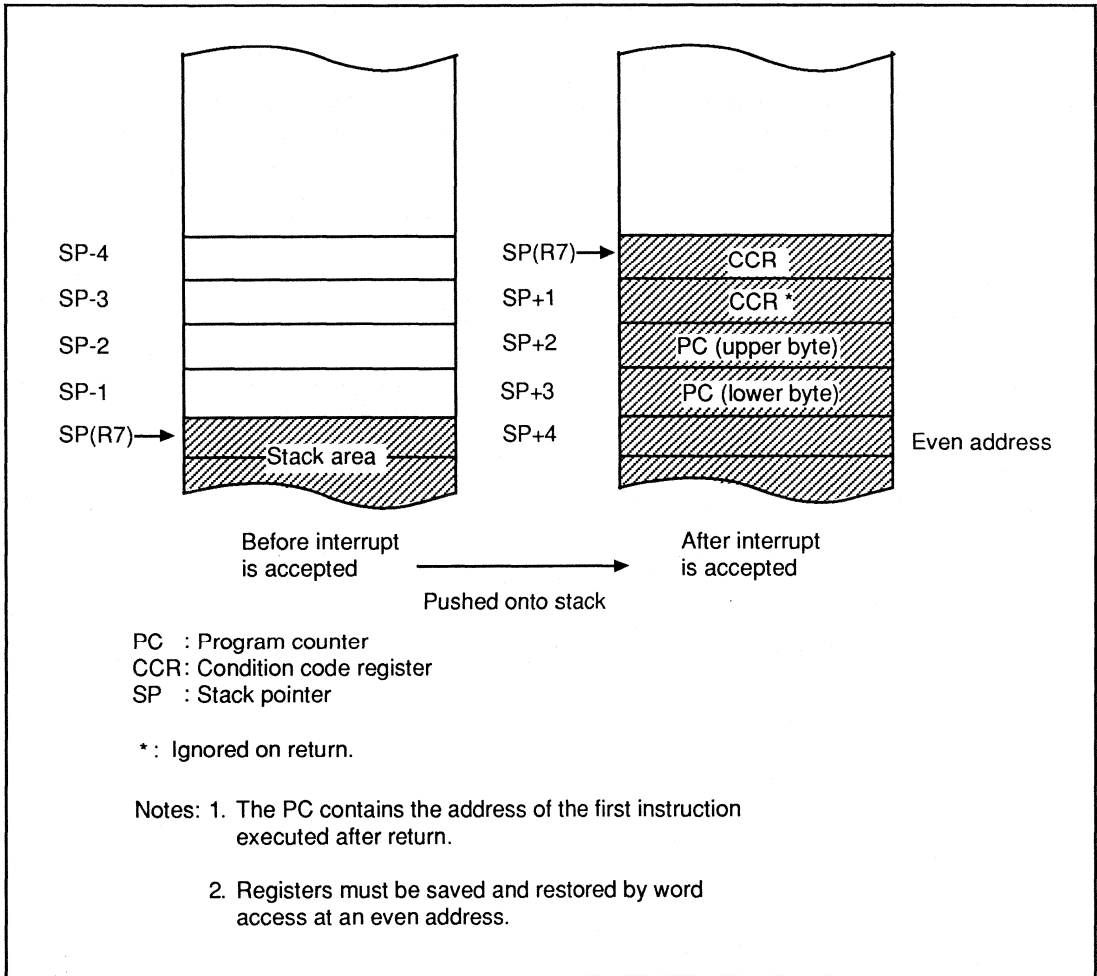

Figure 4-5. Usage of Stack in Interrupt Handling
- (1) The interrupt controller receives an interrupt request signal. Interrupt request signals can be generated by $\overline{\text{NMI}}$ input, or by other interrupt sources if enabled.
- (2) When notified of an interrupt, the interrupt controller scans the interrupt signals in priority order and selects the one with the highest priority. (See table 4-2 for the priority order.) Other requested interrupts remain pending.
- (3) The interrupt controller accepts the interrupt if it is an NMI, or if it is another interrupt and the I bit in the CCR is cleared to 0. If the interrupt is not an NMI and the I bit is set to 1, the interrupt is held pending.
- (4) When an interrupt is accepted, after completion of the current instruction, first the PC then the CCR is pushed onto the stack. See figure 4-5. The stacked PC indicates the address of first instruction executed after return from the interrupt-handling routine.
- (5) The interrupt controller sets the I bit in the CCR to 1, masking all further interrupts except NMI during the interrupt-handling routine.
- (6) The interrupt controller generates the vector address of the interrupt and loads the word at this address into the program counter.